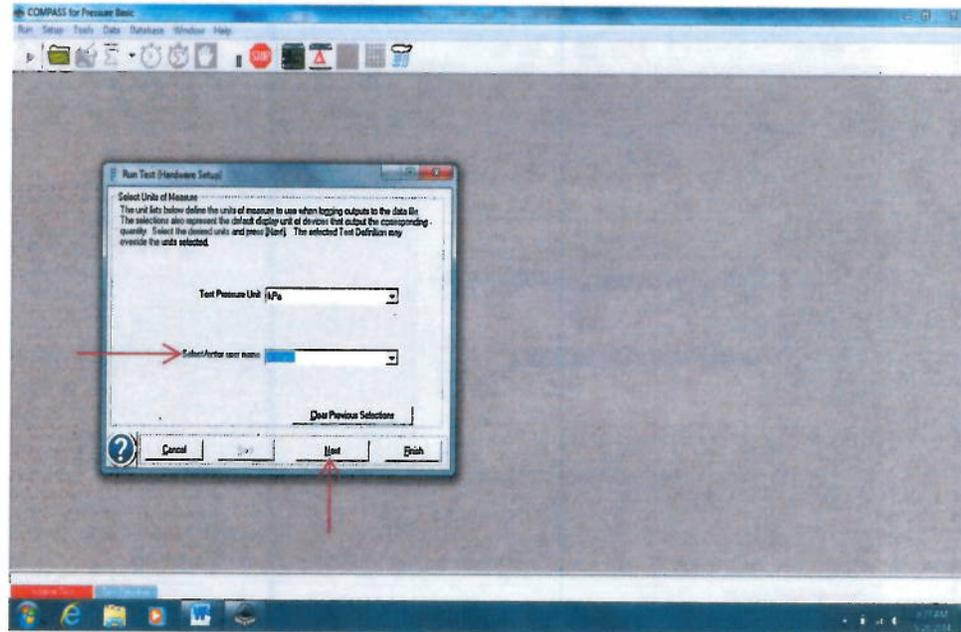

Figure 14
11.14 Enter the user name, and then click on the “Next” button. See Figure 14.